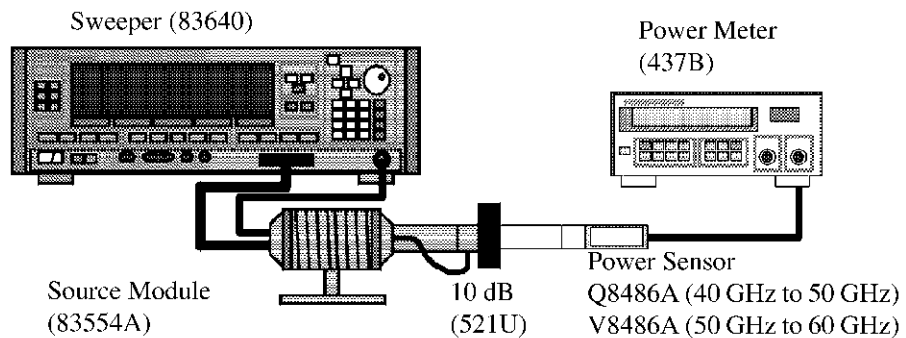

Figure 6-5 Setup of Source Module Calibration
2. Connect equipment as shown in Figure 6-5. (Use the RF power sensor Q8486A)